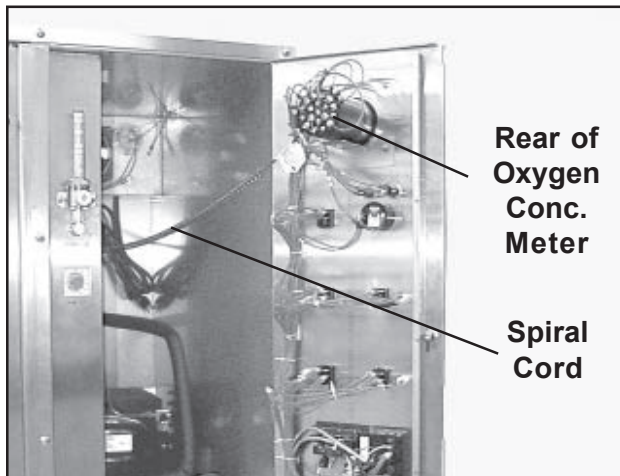

Figure 100. Inside of Electronics Compartment Door
6. Locate the rear of the oxygen concentration meter on the inside of the electronics compartment door (Figure 100).